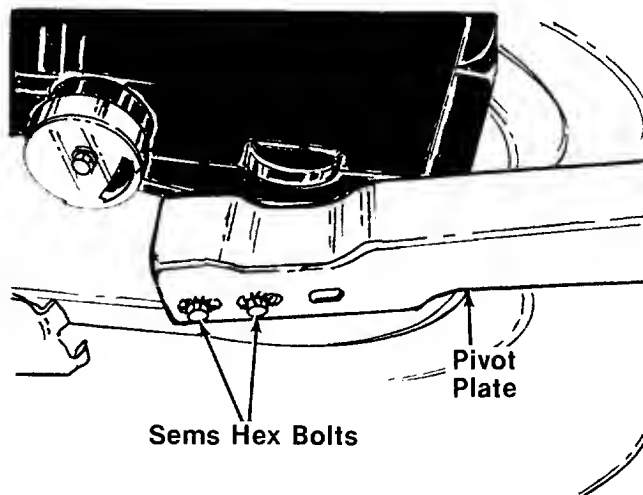

FIGURE 17.
1. Loosen (do not remove) two sems hex bolts. See figure 17.